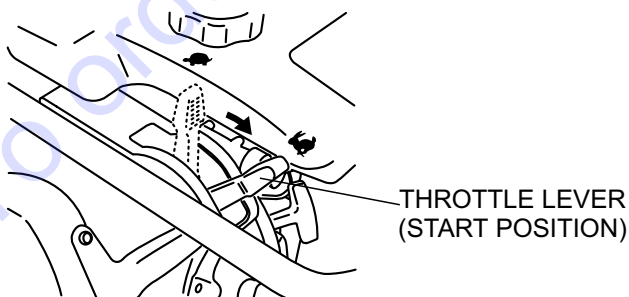

Figure 14. Throttle Lever (Start Position)
1. To start the rammer tamping action, move the throttle lever (Figure 14) **quickly** from **IDLE** to the **START** (👉) position. **DO NOT** move the throttle lever slowly as this may cause damage to the clutch or spring.